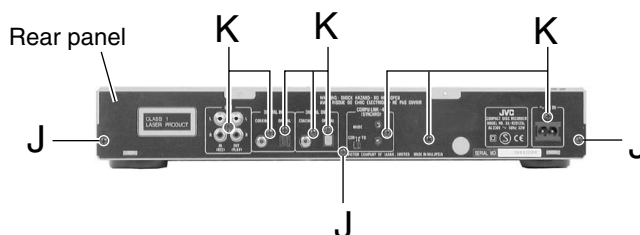

Fig.17
■ Removing the rear panel (See Fig.17)